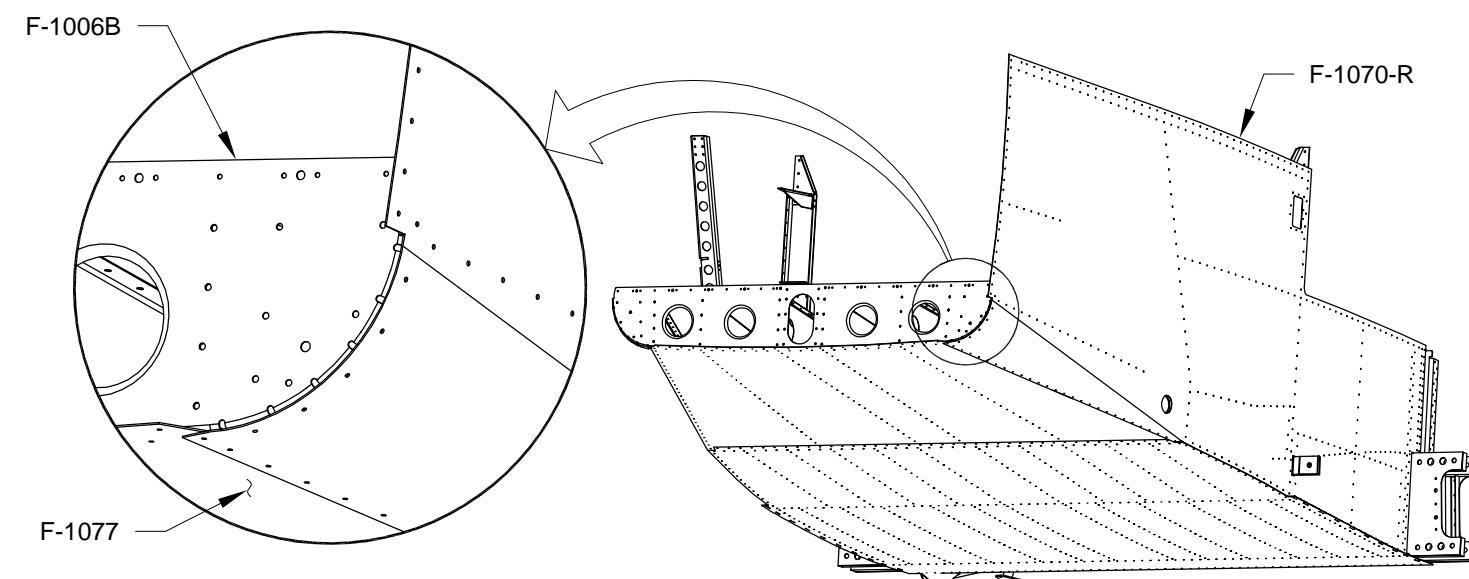

FIGURE 4: TEST FITTING THE MID SIDE SKIN
Step 4: Remove the F-1006B Bulkhead from the Tailcone Assembly. Cleco the F-1070-R Mid Side Skin and the bulkhead to the underlying structure and check that the mid side skin is properly formed. See Figure 4.